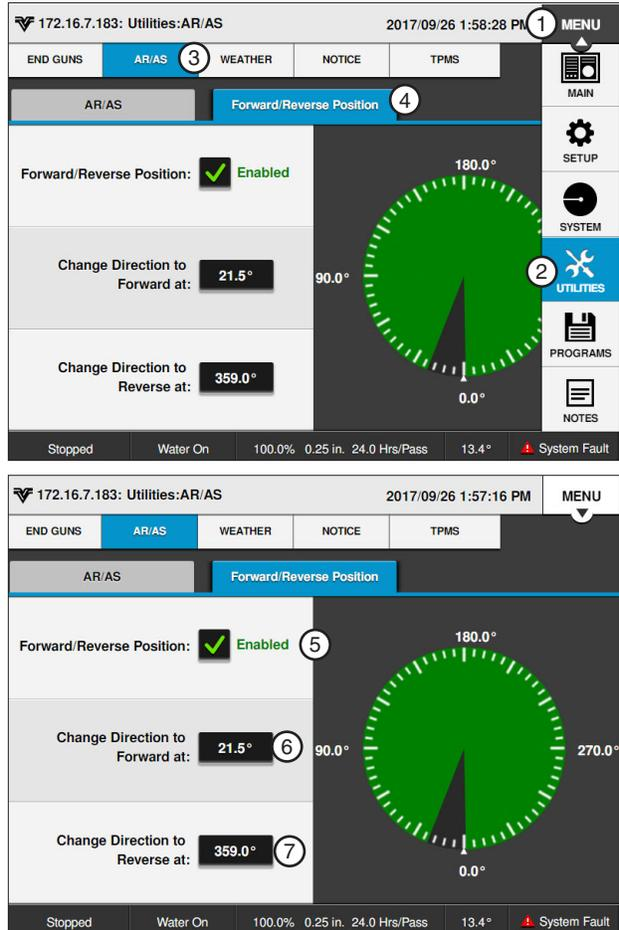

Figure 70-2
1. Push **Menu**, **Utilities** and **AR/AS** and push the **Forward/Reverse Position Setup** button to display the Forward/Reverse Position Setup screen. Refer to Figure 70-2.